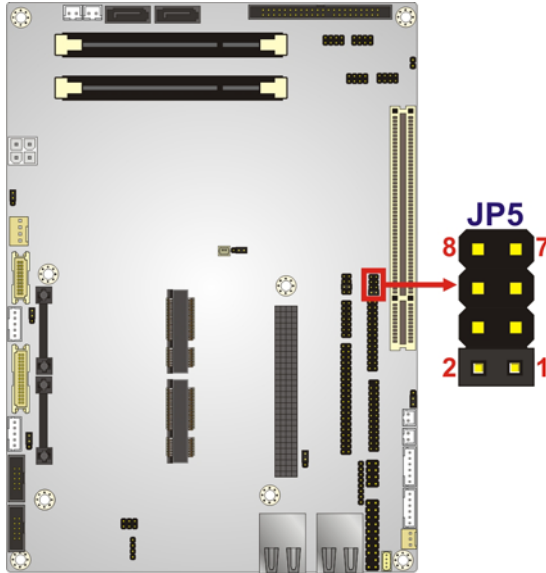

Figure 4-6: COM 6 Function Select Jumper Location
- Jumper Location:** See **Figure 4-6**